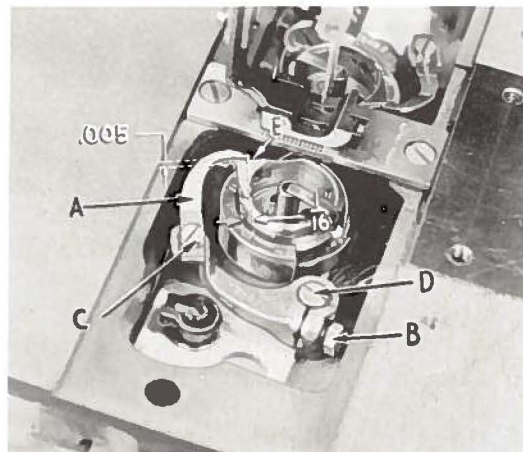

Fig. 17
Place the opener finger (A, Fig. 17) in the machine. Turn the handwheel in the operating direction until the finger is at its maximum point of travel from the needle. While in this position, the opener finger should be moved tightly against the hook basket (E). Loosen screw (C) to make this adjustment. The opener finger should contact the cam surface on the basket for a length of $1/16$ inch. To make this adjustment, loosen the clamp screw (B) and the opener finger lever and swing the lever to the proper position to obtain the $1/16$ inch setting. The screw (D) is used to take up any vertical end play that may exist in the opener finger drive shaft. Now loosen screw (C) and move the opener finger approximately .005 inch away from the cam surface of the hook basket. Re-tighten screw.